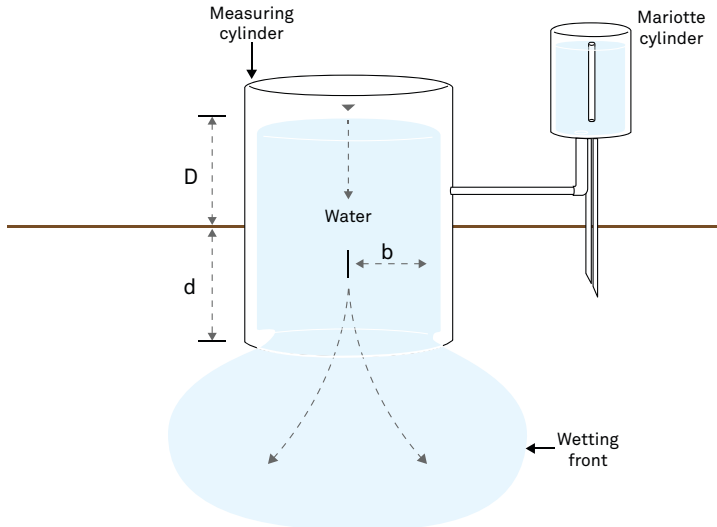

Figure 29 Cross section of a single-ring infiltrometer
Field saturated hydraulic conductivity, K_{fs} (cm/s) is a fundamental soil hydraulic property that describes the ease with which a fluid (usually water) can move through pore spaces or fractures under field saturated conditions. One of the oldest and simplest methods for in situ determination of K_{fs} has involved the measurement of ponded infiltration (D) from within a single ring (with a radius b) pushed a small distance into the soil (d) (Figure 29). The original analysis used the measured steady flow rate, Q_s (cm³/s), and assumed one-dimensional, vertical flow to obtain K_{fs} from Bouwer (1986) and Daniel (1989).